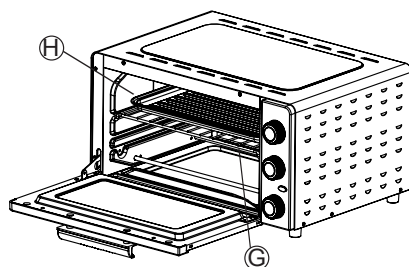

fig.10
1. Slide grill rack  into the oven. Always put the food on the grill tray . When the broiling food like chicken wings or drumsticks which contain fat/oil, put the food on the grill tray and put it on the on the grill rack. **See fig. 10.**